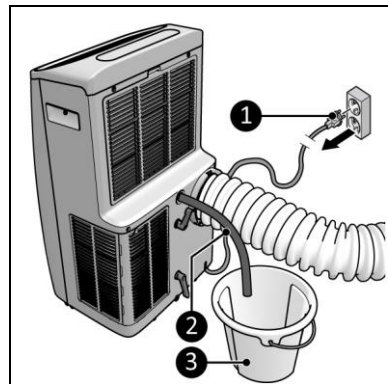

Figure 14
- If heating for a longer period, install the water drain hose (Figure 14).
- Make sure the device is switched off and the plug is removed from the power outlet (Figure 14, pos. 1).
- Connect the included water drain hose to the drain of the device (Figure 14, pos. 2).
- Place the outlet of the water drain hose in a bucket (Figure 14, pos. 3).
If heating for a longer period, install the water drain hose (Figure 14).